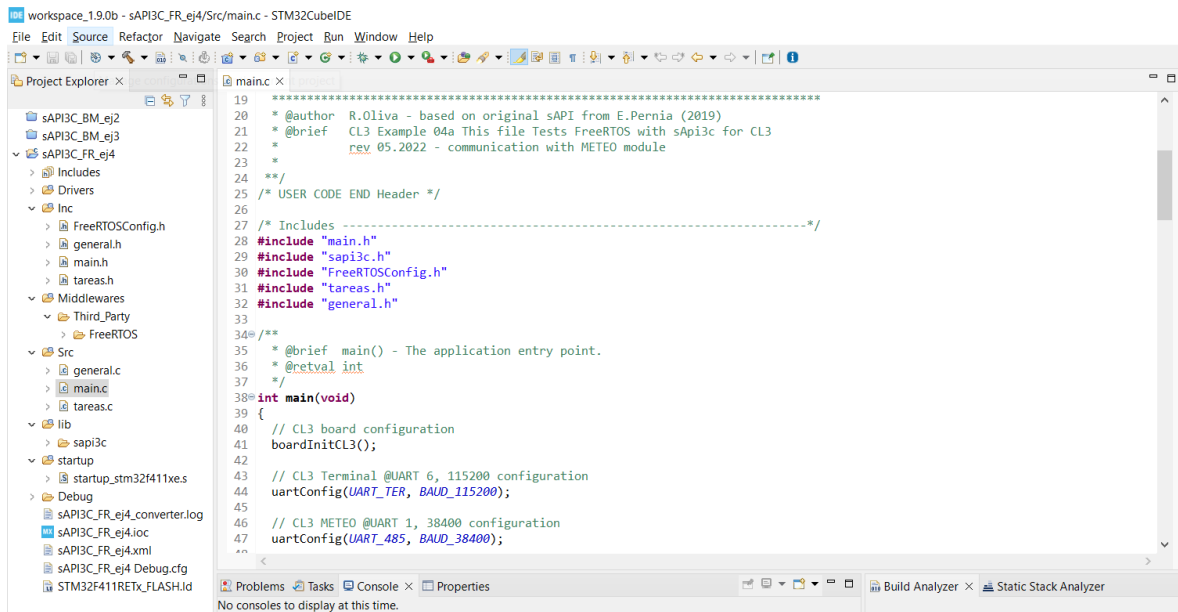
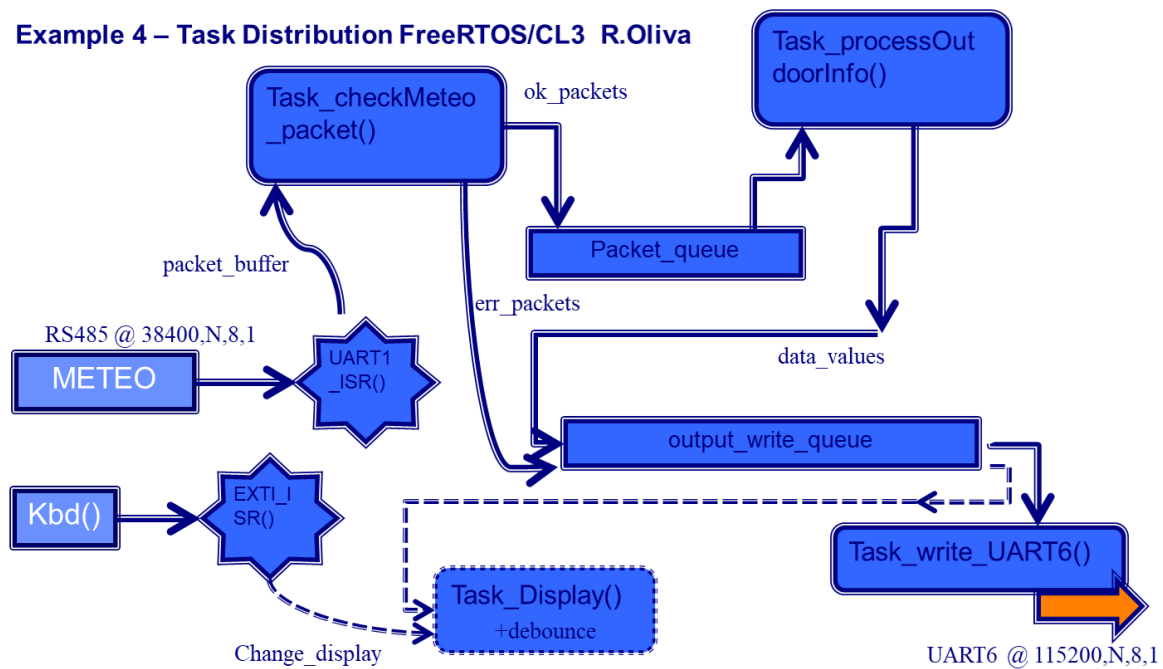
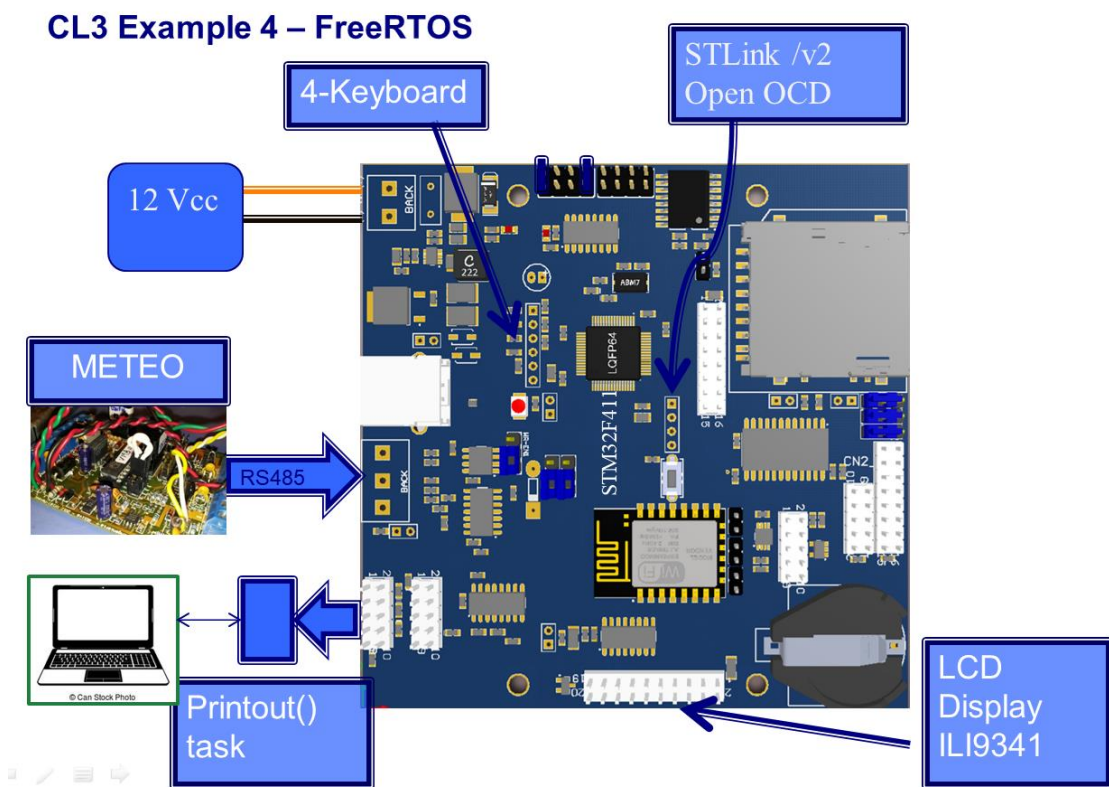
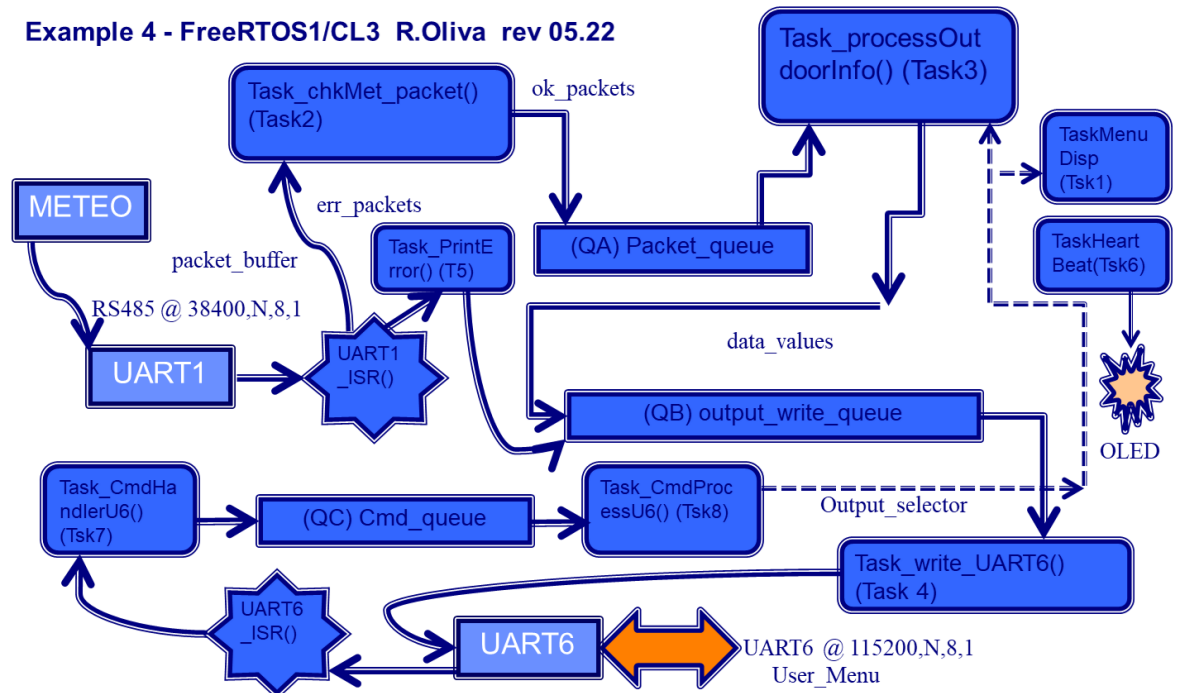

Figure 20 – Example 4 project structure with FreeRTOS as middleware
Figure 22 – Example 4 project task distribution
Figure A.2 – CL3 board connection for Example 4
Figure A.3 – Example 4 on CL3 detailed Task Distribution
**3.c Example 4 (sAPI3C\_FR\_ej4) :** This program is a more complex application using FreeRTOS as middleware, and connecting the CL3 board to a METEO peripheral using an RS485 link, see Figure A.2 in Appendix I. The structure of the project is shown in Figure 20, and is considerably longer including more files in the /src and /inc directories shown. Figure 21 shows the main display output and the internal connection to a METEO board (left), with and RS485 adapter in the middle. The CL3 board is being debugged as in prior examples using the STLink/v2 interface to a USB port on a PC running STM32CubeIDE. A second USB port is used to connect the Terminal port to show the main user interface (Figure 22).
In FreeRTOS applications the program initializes a series of tasks and starts a scheduler, which defines execution time-slots to each task. Example 4 has a quite complex Task distribution which is outlined in Figure 22, a more complete graphical task detail is shown in Figure A.3 of APPENDIX I. A thorough description can be found (in Spanish) in [ref12].